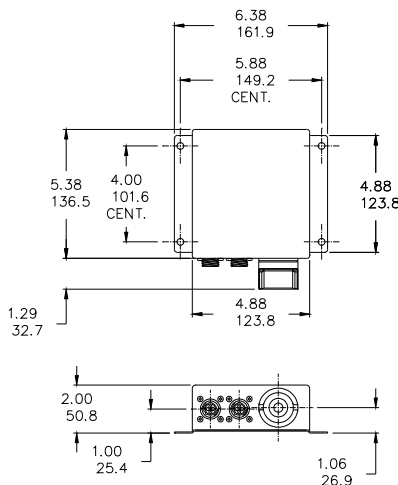

Figure 12: AC to DC Power Supply Outline Drawing
The AC- DC power supply is in a stainless steel enclosure which is remotely mounted. Capable of powering up to (2) Model 350/355 I.S. indicators in gas Groups C-G or IIB-IIA and (1) Model 350/355 I.S. indicator in gas Groups A-G or IIC-IIA. Refer to Figure 12 for mounting dimensions.